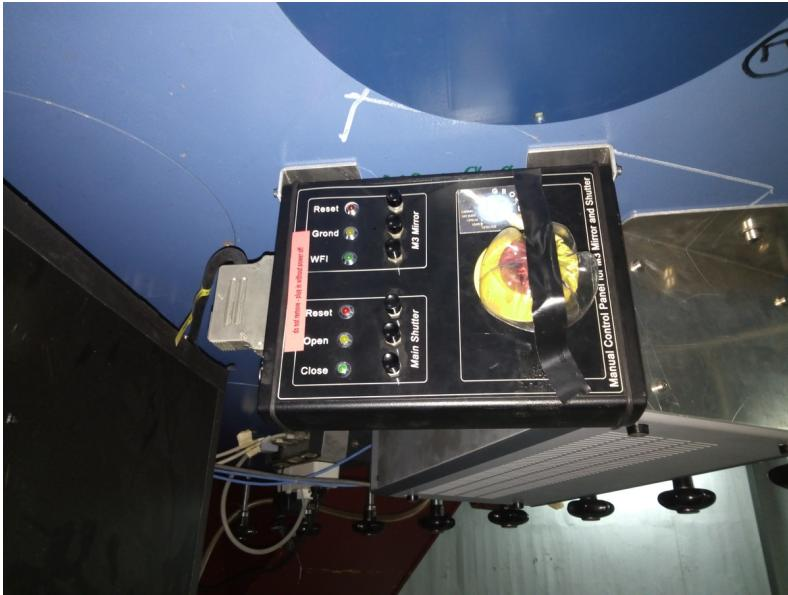

Figure 10.11: The GROND M3 mirror and main cover control box.
- B. On the box (Fig. 10.11, p. 95), press the grondM3 WFI button.